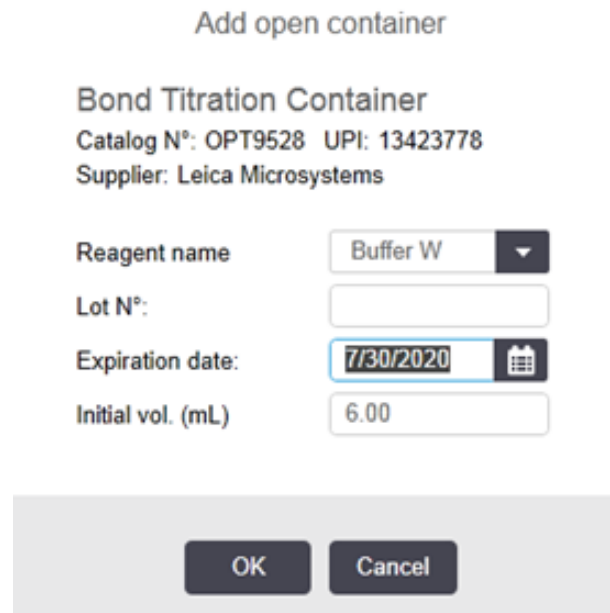

Figure 15: Add open container window
- In the **Add open container** window (see Figure 15), select **Buffer W** from the **Reagent name** drop-down menu, enter a **Lot No.** (if required), and enter an **Expiration date**.